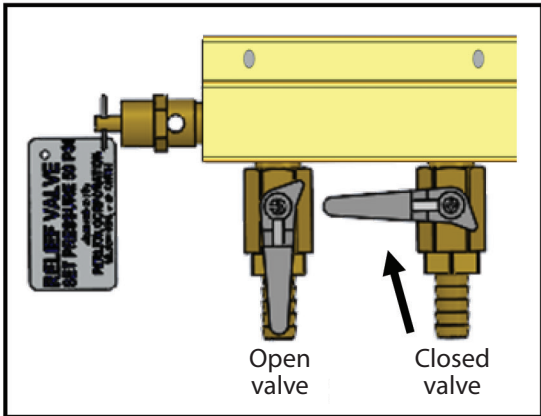

Fig. 18
- a) Close all valves on the nitrogen tank & air distributor(s). Refer to *Fig. 18* if unsure on what a closed/open valve looks like.